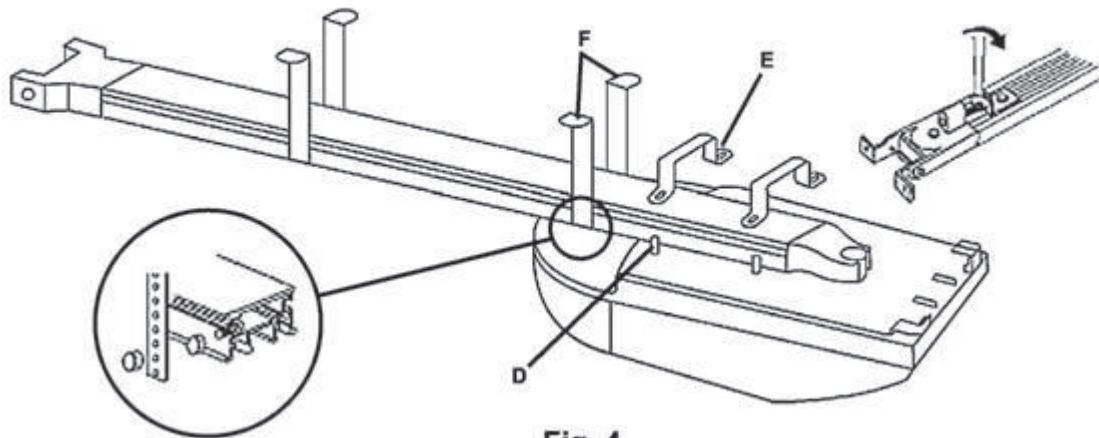

Fig. 4
Before attaching the motor brackets (E) (FIG 4) screw an inverted nut (6mm) (D) on each stud then position the brackets (E) on the studs and secure them in-place using a second 6mm-nut and then lock the brackets to the rail by tightening the inverted lock nuts (D). Fix the opener to the